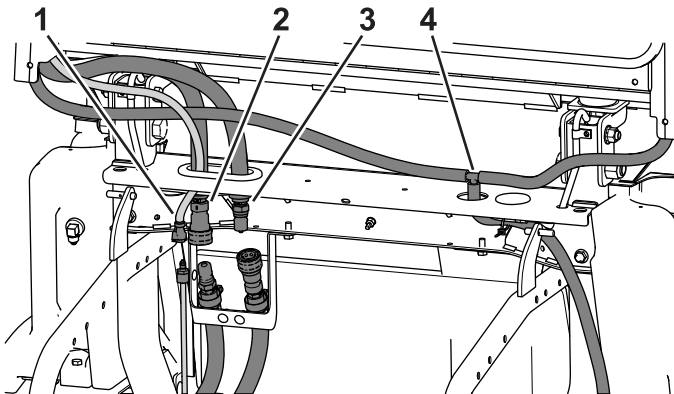

Figure 109
1. Disconnect the washer tube, heater-supply hose, and heater-return hose (Figure 109).
2. Remove any cable tie that secure the drain tube to the machine (Figure 109).